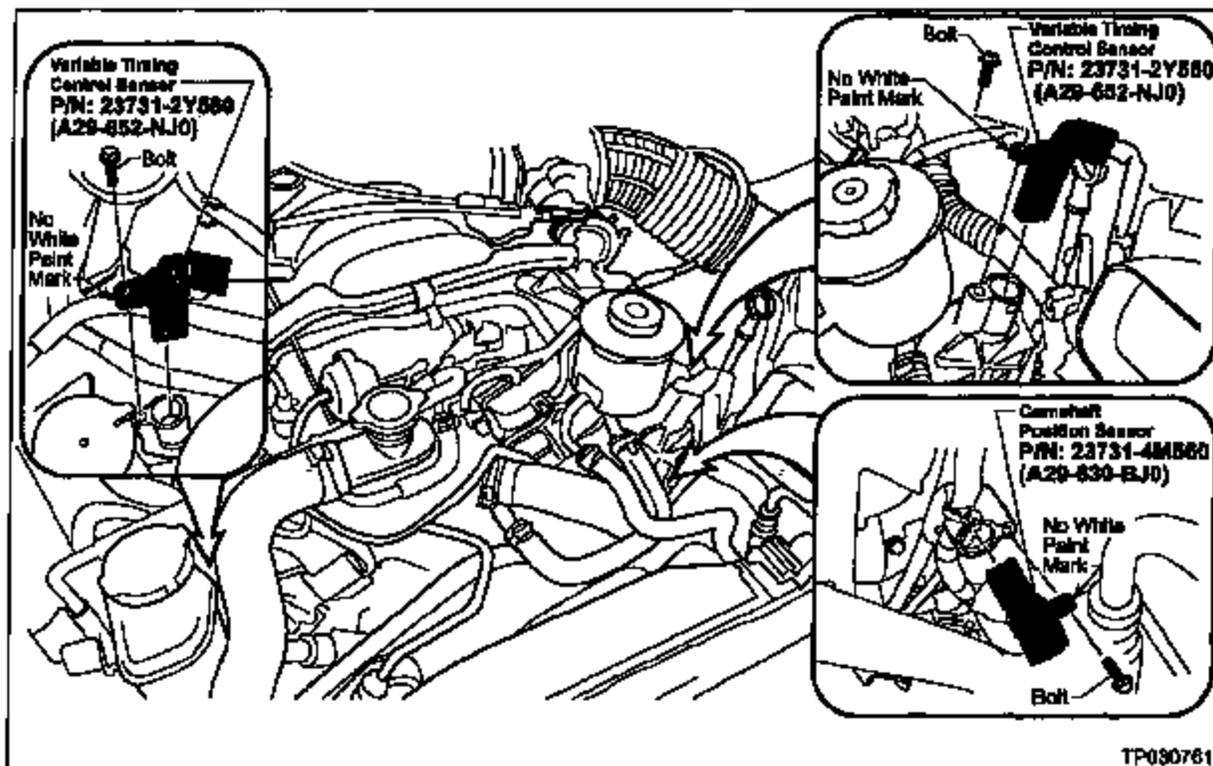

Figure 11
4. Locate the Camshaft Position Sensor and the Variable Timing Control Sensors (see Figure 11).